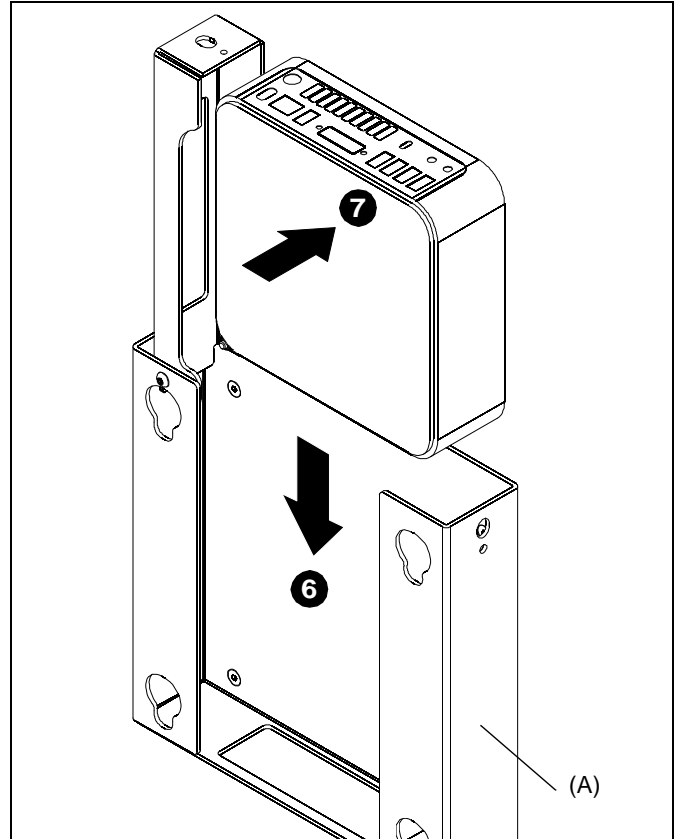

Figure 3
6. Slide CPU into CPU holder (A). (See Figure 3)
7. Press CPU side with hook and loop squares against back inside surface of CPU holder (A). (See Figure 3)